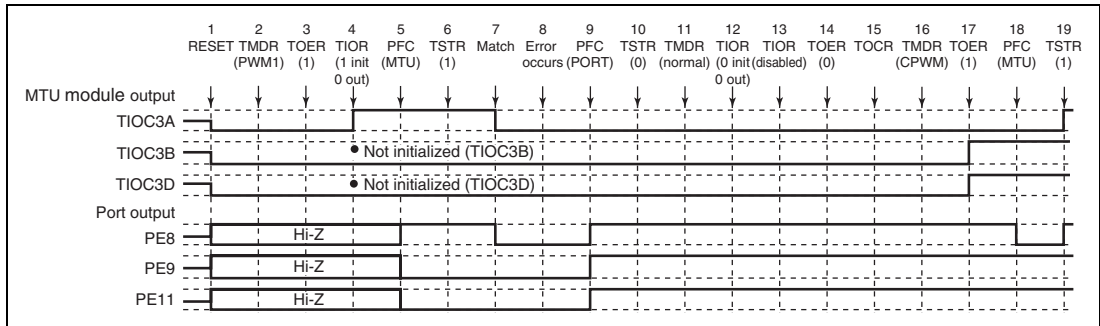

**Figure 11.95 Error Occurrence in PWM Mode 1, Recovery in Complementary PWM Mode**
**Operation when Error Occurs during PWM Mode 1 Operation, and Operation is Restarted in Complementary PWM Mode:** Figure 11.95 shows an explanatory diagram of the case where an error occurs in PWM mode 1 and operation is restarted in complementary PWM mode after re-setting.
1 to 14 are the same as in figure 11.95.